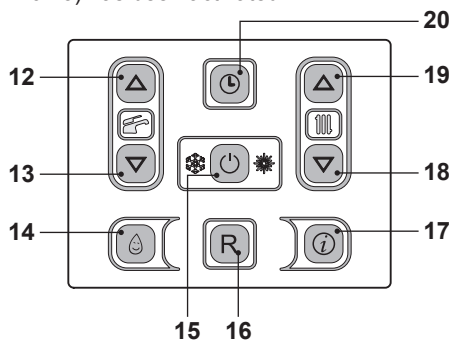
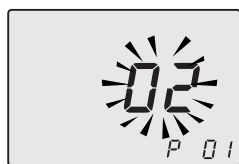
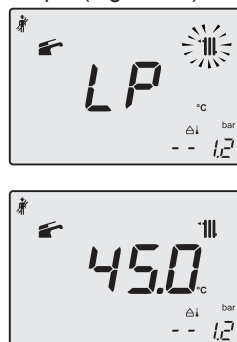
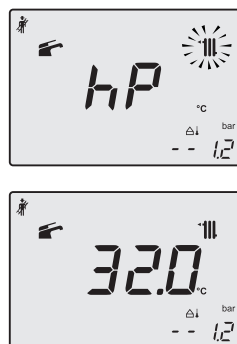

Fig. 10.22
Fig. 10.23
Fig. 10.24
Fig. 10.25
- Enter in "programming mode" by sequentially pressing and holding in keys, 15 - 18 and then 19 (Fig. 10.22) for 10 seconds until the letters **P01** are displayed on the LCD display, indicating that "parameter 01" (Fig. 10.23) has been activated.
- Press keys 18 and 19 (Fig. 10.22) at the same time until the LCD display displays the letters **LP** that alternate with the heating water temperature value (e.g. **45**), indicating the activation of the "flue sweep function" at minimum output (Fig. 10.24).
- By pressing 19 (Fig. 10.22) it is possible to change power in flue sweep mode: with the letters **hP** on the LCD display which alternate between the heated water temperature (i.e. **32**), we are in the "flue sweep function" at the minimum power during heating (Fig. 10.25).
- Press keys 15 - 18 - 19 (Fig. 10.22) at the